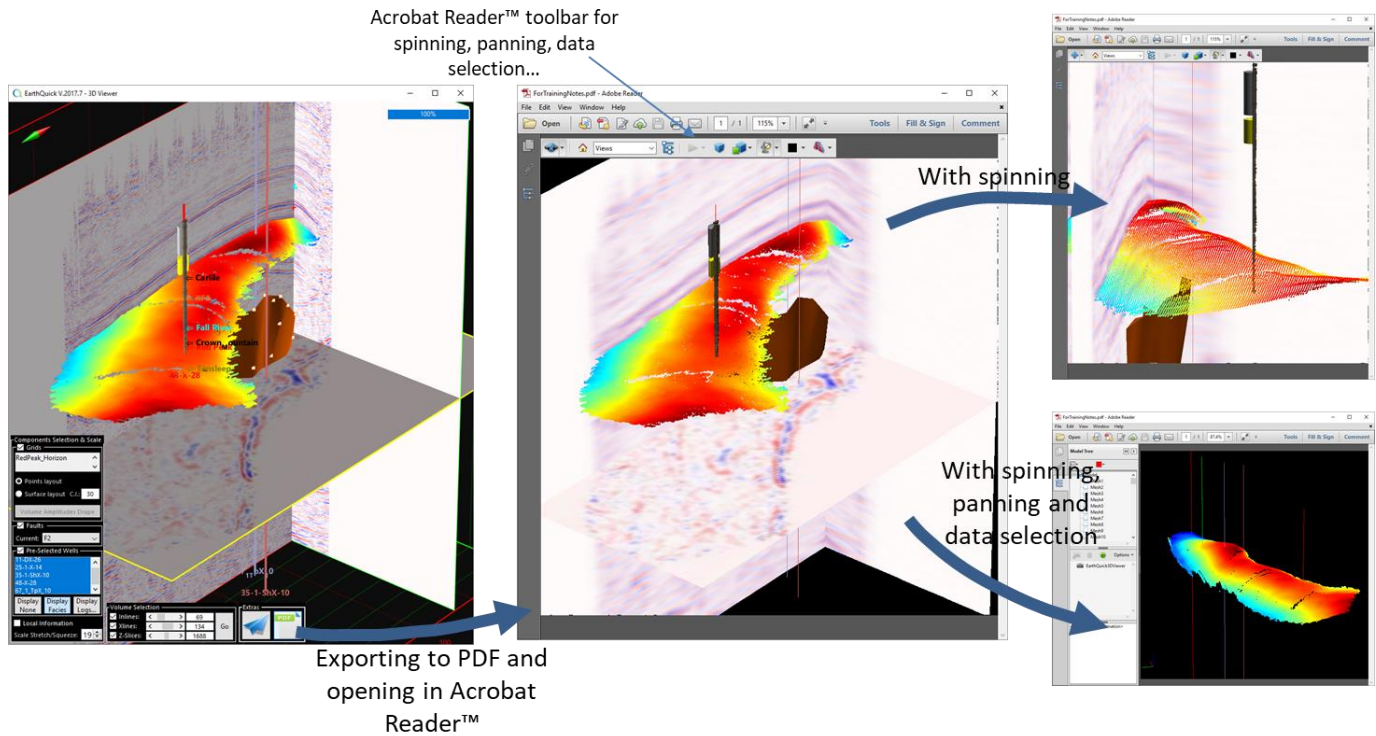

Figure 78: Common 3DPDF export workflow.
- Exports in 3DPDF format are also available (see Figure 78). These features could be opened with Acrobat Reader™ and spun, panned and recomposed in terms of items selection. All exports are added to the Metadata folder and their reduced size is in favor of sending them by email.